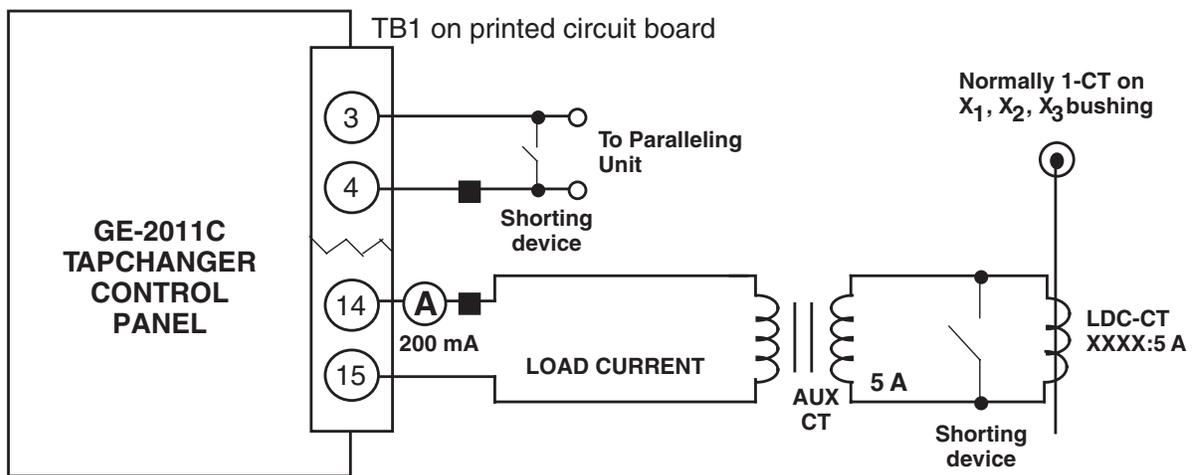

Figure 8-7 GE-2011C Setup for Current Checkout Procedure
1. Short the line drop compensator circuit by placing a shorting device of adequate capacity, across the LDC-CT secondary (See Figure 8-7).